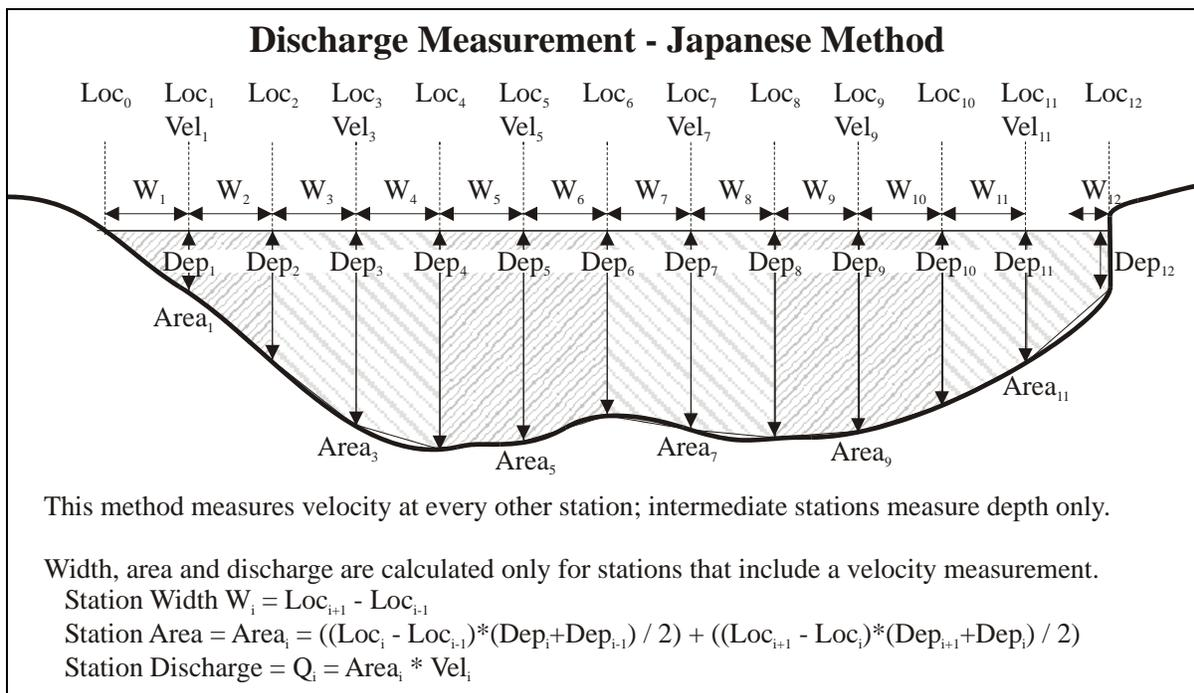

Figure 4 – Japanese Discharge Equation
- Japanese equation (Figure 4)